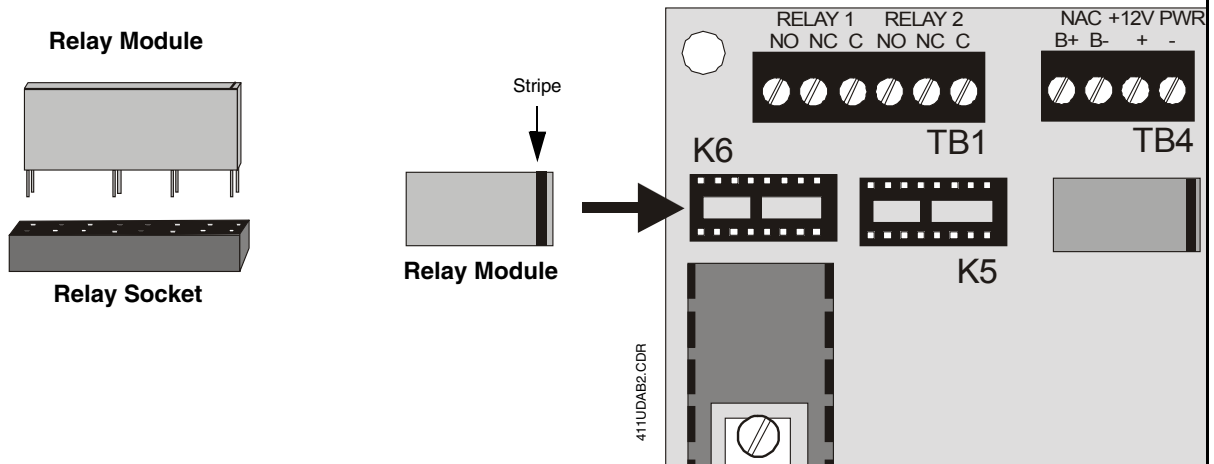

Figure 1: Relay Installation
2. Position the relay module with the stripe to the right as illustrated in Figure 1